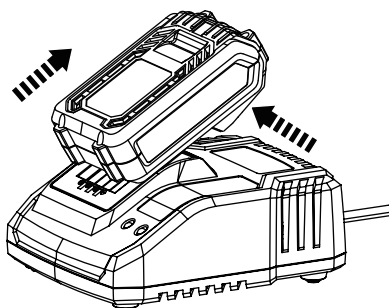

Fig. 2
2) After charging has finished, disconnect the charger from power supply. To remove the battery pack from the charger, press the release button on the battery and pull the battery pack out of the charger (Fig.2).